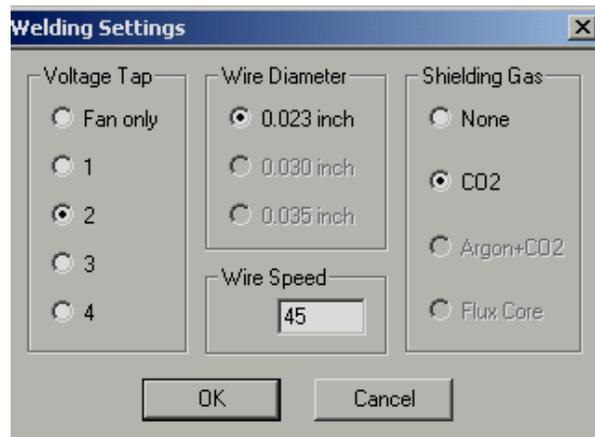

Figure 7-7: Welding Settings Dialog Box
**Welding Settings** Opens the Welding Settings dialog box (see Figure 7-7) which enables definition of the following weld parameters: